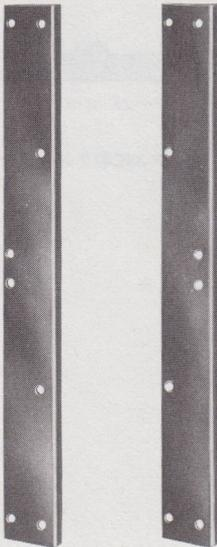

Fig. 36—Auxiliary Leg Per ED-95023-70
5.05 The auxiliary leg per ED-95023-70† (Fig. 36) has two extension leg assemblies used to mount the J86731A, List 4 power plant above the 16-type apparatus mounting.